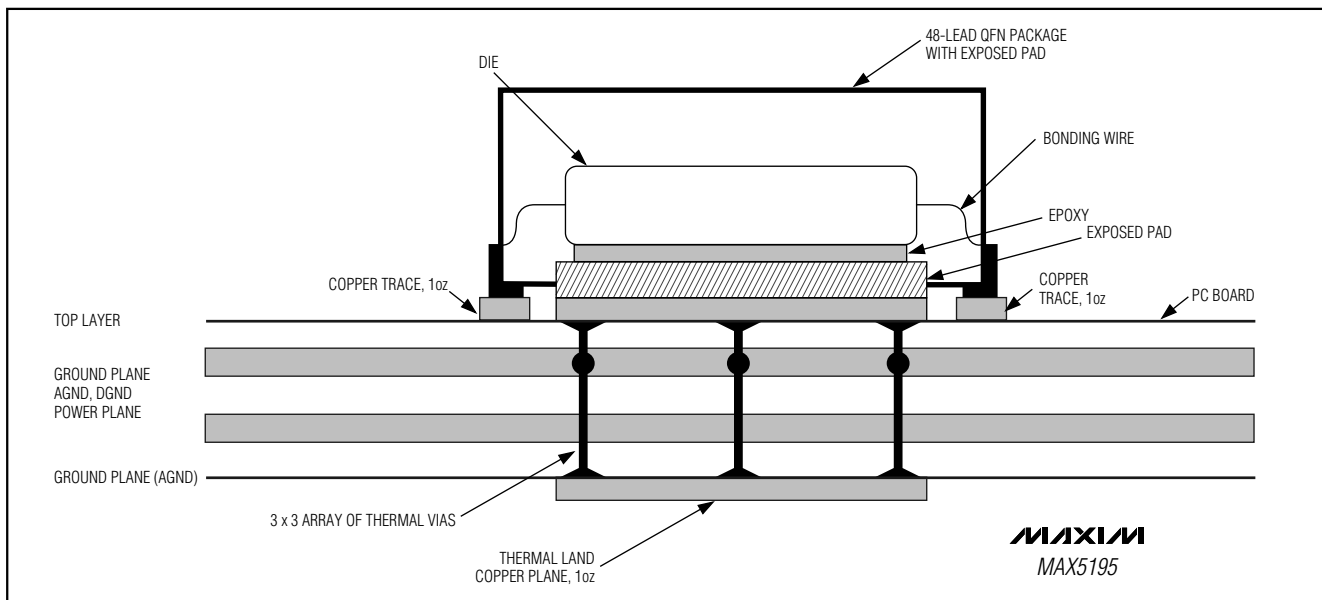

Figure 9. MAX5195 Exposed Paddle/PC Board Cross Section
The MAX5195 is packaged in a thermally enhanced 48-pin QFN-EP package, providing greater design flexibility, increased thermal efficiency, and a low thermal junction-case ( $\theta_{jc}$ ) resistance of  $\approx 2^{\circ}\text{C}/\text{W}$ . In this package, the data converter die is attached to an EP lead frame. The back of the lead frame is exposed at the package bottom surface (the PC board side of the package, Figure 9). This allows the package to be attached to the PC board with standard infrared (IR) flow soldering techniques. A specially created land pattern on the PC board, matching the size of the EP (5.5mm  $\times$  5.5mm), guarantees proper attachment of the chip, and can also be used for heat-sinking purposes. Designing thermal vias\* into the land area and implementing large ground planes in the PC board design further enhance the thermal conductivity between board and package. To remove heat from a 48-pin QFN-EP package effectively, an array of 3  $\times$  3 (or